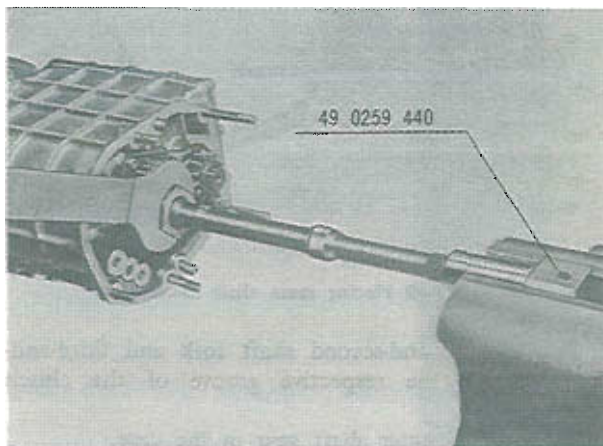

Fig. 7-4 Loosening lock nut
12. Mount the main shaft assembly on the **main shaft holder** (49 0259 440) as shown in Fig. 7-4 and loosen the reverse gear lock nut, and remove the lock nut, lock washer, reverse gear and key.